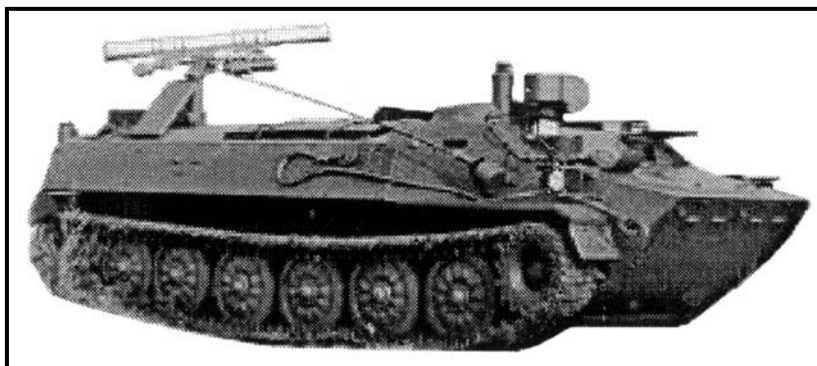

Figure H-13. Russian ATGM launcher vehicle, 9P149.
c. **Russian ATGM Launcher Vehicle, 9P149** (Figure H-13).